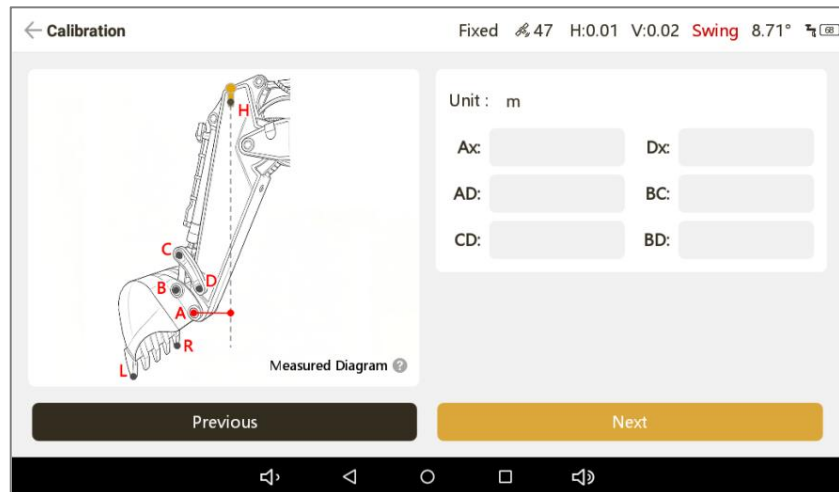

Figure 3-82
- (10) Measure the distance **Ax** from the **A**-pivot axis to the plumb line plane, and the distance **Dx** from the **D**-pivot axis to the plumb line plane, as shown in Figure 3-82. Use the plumb line as a reference, place the tape measure horizontally, and read it perpendicularly. An auxiliary measuring tool can be used to help align with the plumb line, as shown in Figure 3-83.